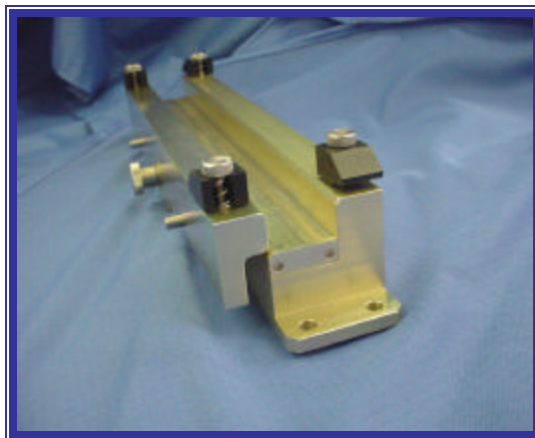

Figure 6: Wrapping Fixture Shown with Clamp Reflective In Fully Open Position
- 2) Turn the knob located on the front side (PN: B7691) of the wrapping fixture (PN: B7689) until the adjustable plate is retracted to its opened position. (Do not remove the adjustable plate from wrapping fixture.) Figures 5-8 depict the CDE wrapping process. See Figure 6 and drawing B7689 for details.